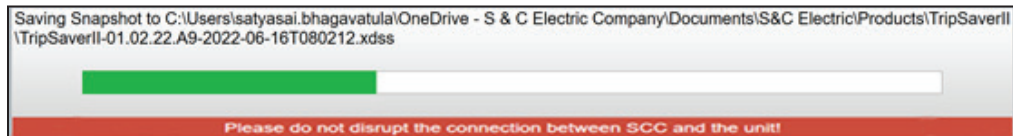

Figure 4. The firmware update saving a snapshot file before updating the firmware.
- Saves a snapshot file before updating the firmware (See Figure 4.)